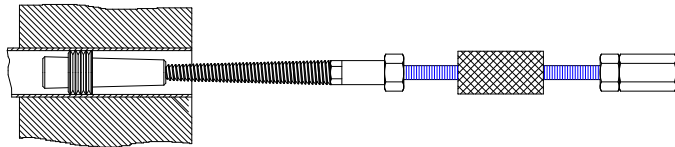

FIGURE 2
2. Fully engage the male thread on the spear tip into Pop-A-Plug pin.(Figure 2)